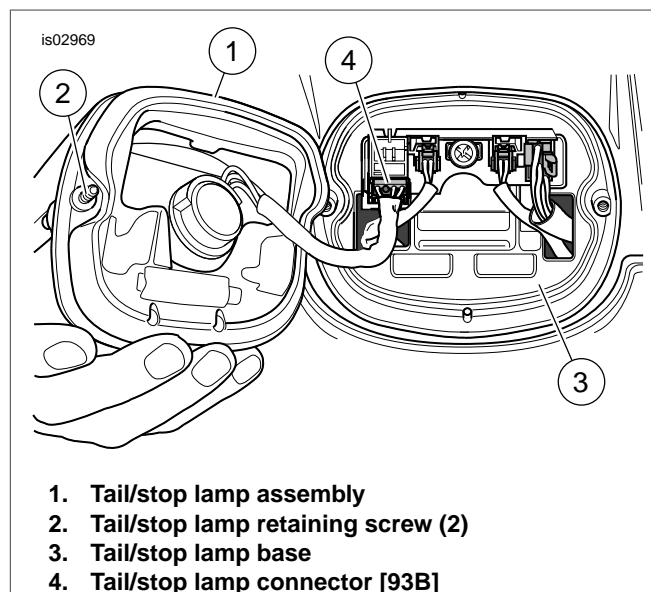

Figure 1. Removing the Tail/Stop Lamp Assembly
Figure 1 shows the original equipment tail/stop lamp mounted to a full fender.
2. See Figure 1. Loosen the two screws (2) retaining the tail/stop lamp assembly (1) to the lamp base (3). Pull the lamp assembly away from the base.
3. Push the locking tab (button), and disconnect the tail/stop lamp connector [93B] (4) from the circuit board. Remove the lamp from the vehicle.
See Figure 1. Lamp assembly (1) attaches as shown on full fender models.